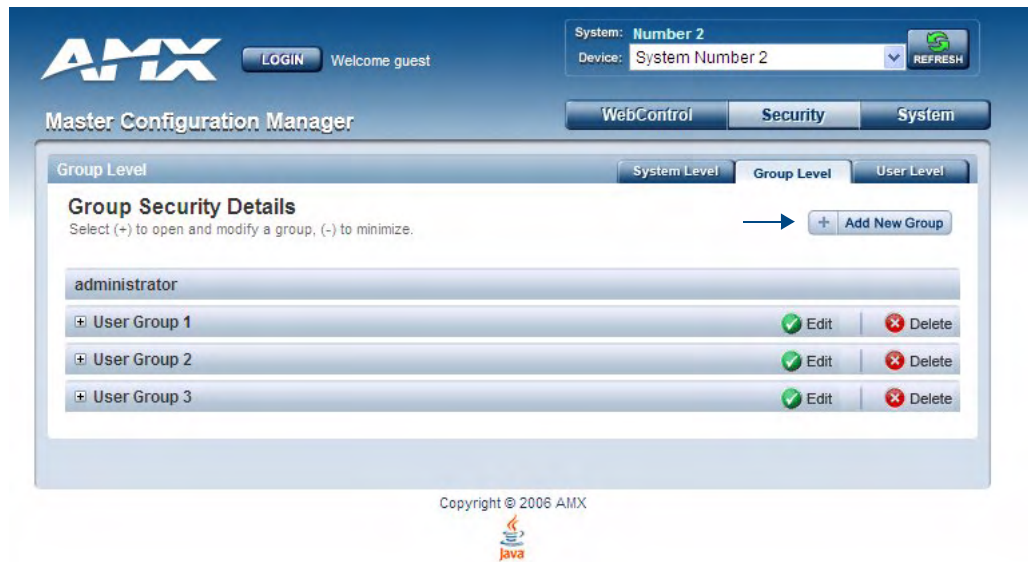

FIG. 20 Group Security Details page
Select the *Group Level* tab of the Security Page to access the **Group Security Details** page (FIG. 20).
2. Click the **Add New Group** button (see FIG. 20) to access the **Add a group and modify settings** page (FIG. 21).